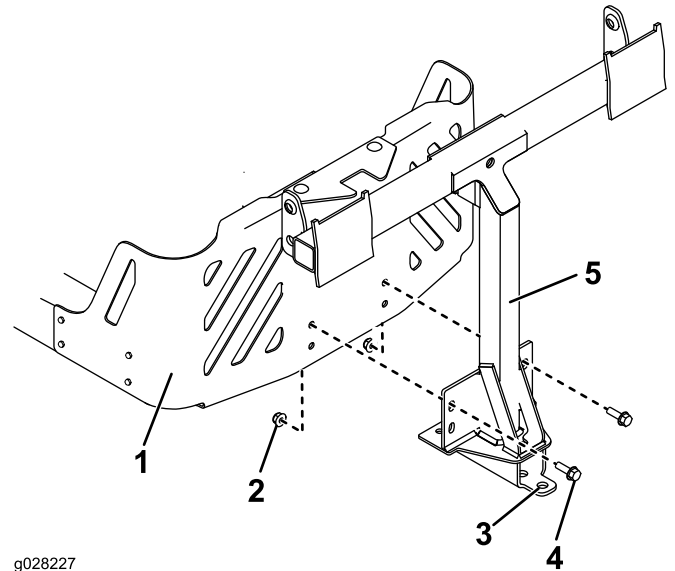

Figure 2
2. Install the pivot frame to the machine frame as shown in Figure 2. Secure the pivot frame to the machine frame using 2 bolts (5/16 x 1 inch) and 2 locknuts (5/16 inch).